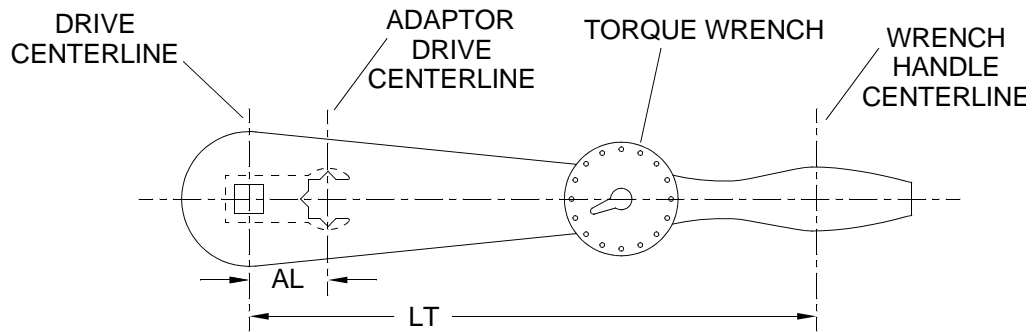

Figure 2. Adaptor Increases Distance
2. If the adaptor used increases the distance between the center of the torque wrench handle and the center of the drive (figure 2), first find the desired torque for the fitting, then calculate as follows: